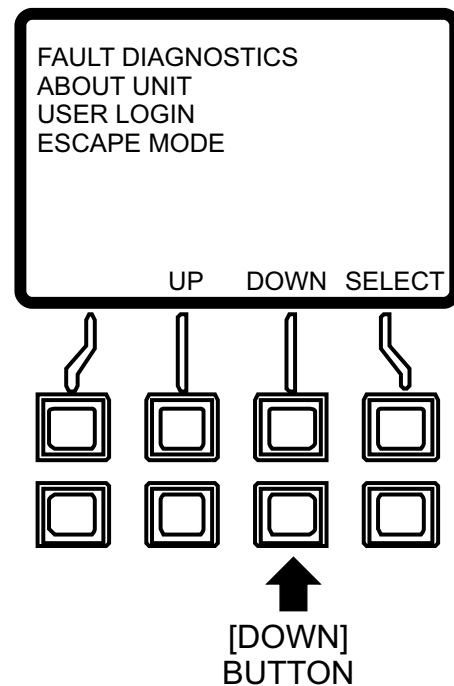

Figure 72. Main Menu (Down Button)
4. Press the [DOWN] button (Figure 72) to scroll to the Escape Mode item.